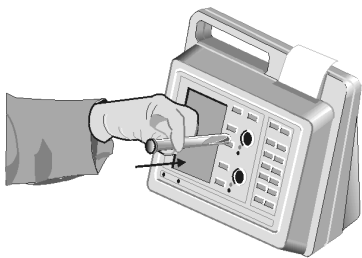

Figure 9. Inserting the Test Tube Into the Well
- 3. Insert the test tube in the well (Figure 9 below). Quickly rotate the tube clockwise one revolution. The screen will briefly display DETECTING MAGNET PLEASE WAIT.